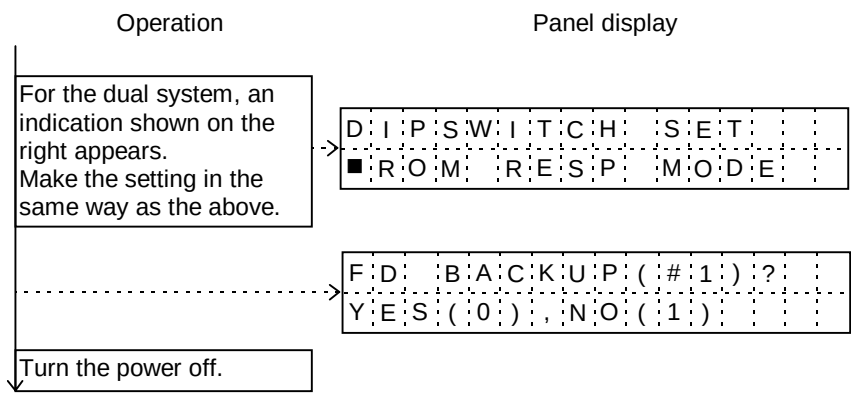

Figure 4.1 DIP Switch Settings for Download Program
- (1) Turn off the power for the unit.
- (2) Set DIP switch No.4 of the CTL ASSY as shown in Figure 4.1. For the location of the DIP switch, see Chapter 2 (THEORY).